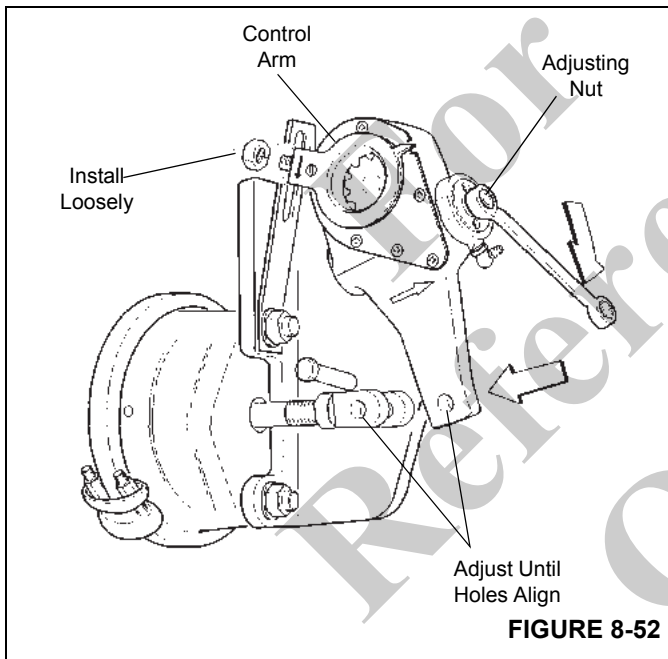

FIGURE 8-52
4. Rotate the adjusting hex nut clockwise until the slack adjuster arm hole lines up with the clevis hole (see Figure 8-52).